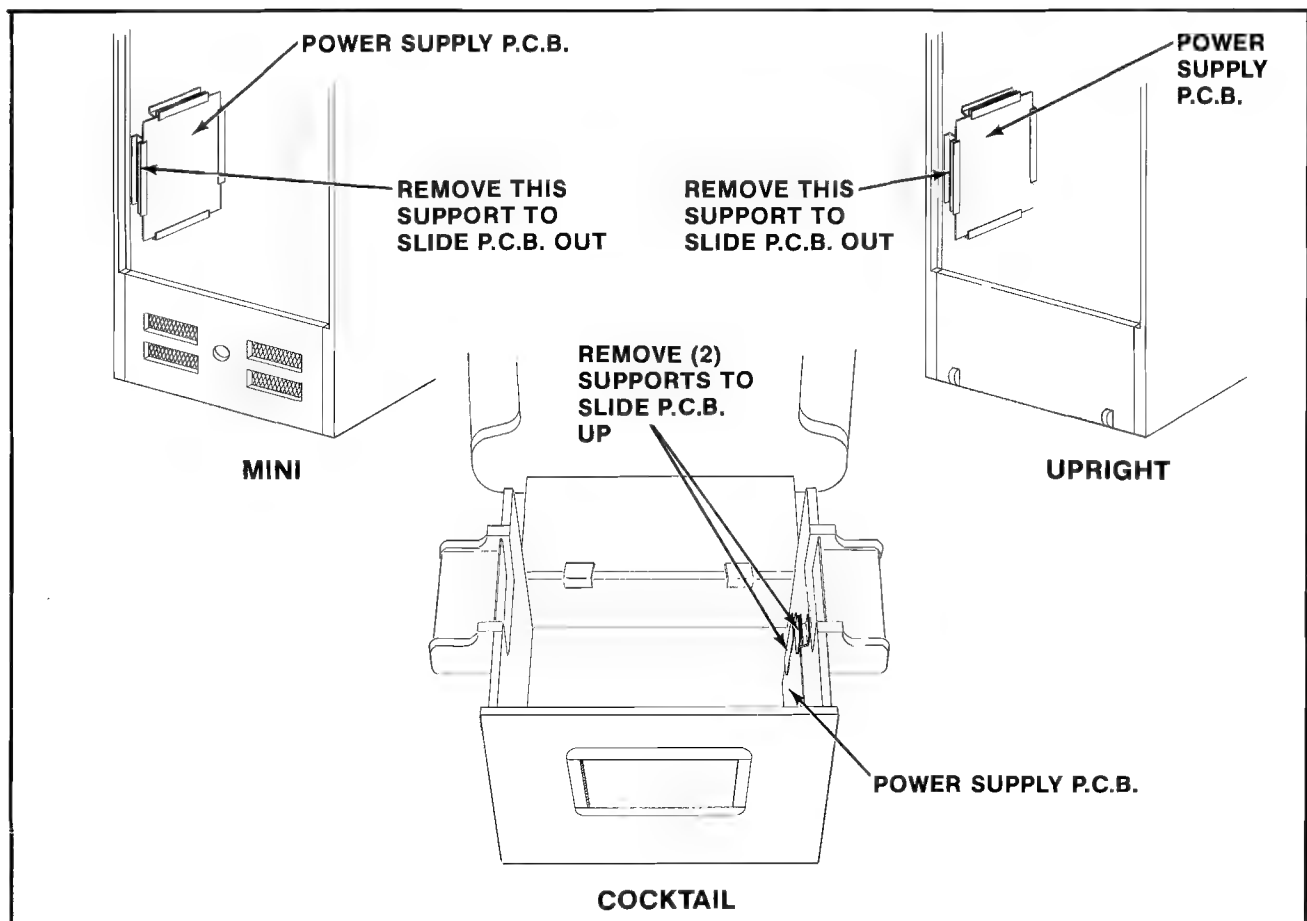

Figure 24 Replacing power supply P.C.B. — All versions
1. UPRIGHT MODEL. SEE FIGURE 24.
- Disconnect the linear power supply board from all its cabling, remove the P.C.B. supports indicated in Figure 24, and slide the linear power supply board out the back of the cabinet.
2. MINI MODEL. SEE FIGURE 24.
3. COCKTAIL TABLE MODEL. SEE FIGURE 24.
- Remove the linear power supply board. See Figure 24.